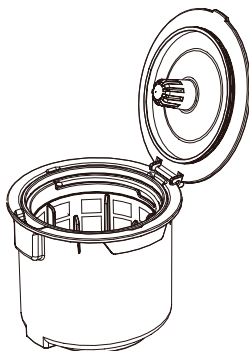

Figure 1
1. Remove the bean box assembly, and wash it separately (**Figure 1**).